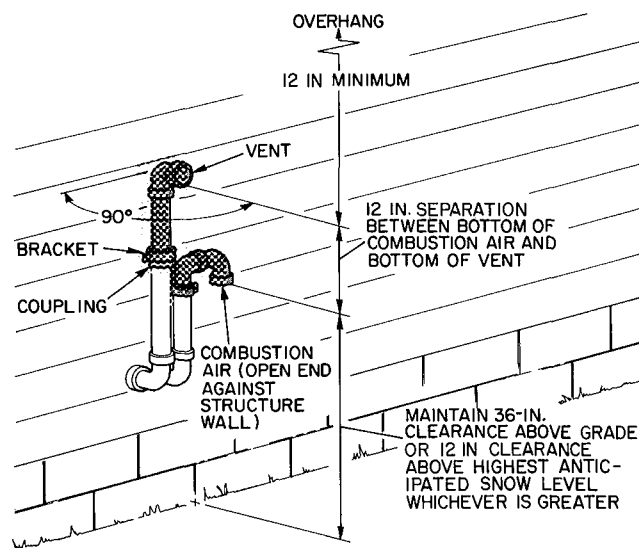
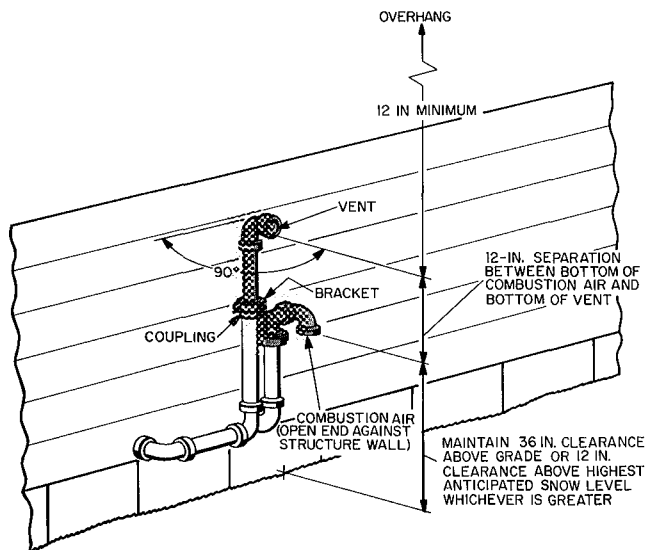

Fig. 4 — Sidewall Vent Termination Below Snow Level or Too Close to Grade (Preferred)
Fig. 5 — Sidewall Vent Termination Below Snow Level or Too Close to Grade (Option)
Install kit as follows when combustion-air and vent pipes exit through sidewall below snow level or too close to grade. (Fig. 4 and 5).
NOTE: The arrangement in Fig. 4 is preferred. The arrangement shown in Fig. 5 is an option for the vent pipe only.
4. Loosely install U-fitting and bracket as shown in Fig. 4. Position U-fitting so open end is against structure wall.
5. Loosely install vent-pipe assembly in coupling as shown in Fig. 4 or 5.
6. Check required dimensions as shown in Fig. 4 or 5.
8. Install bracket as shown in Fig. 4 or 5.